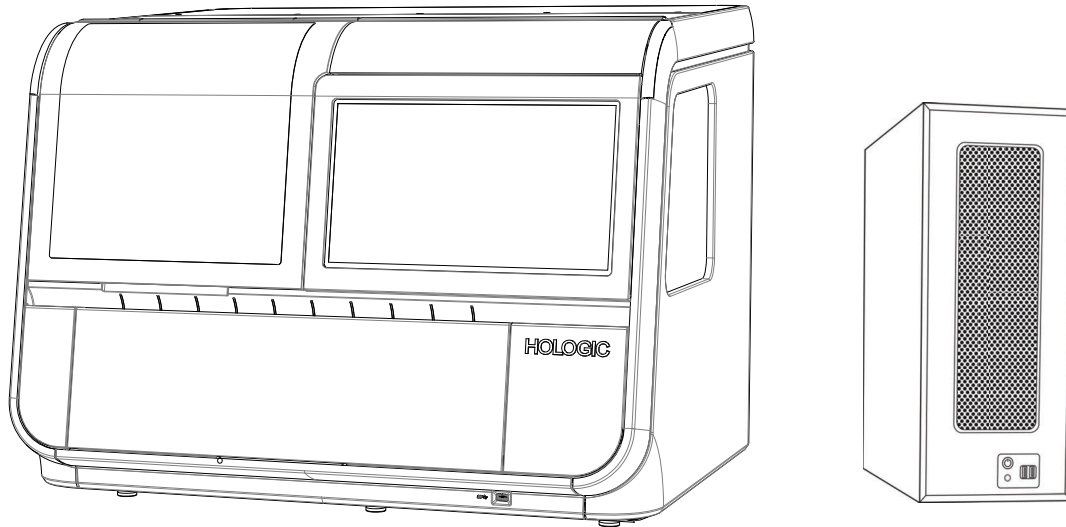

Figure 1-1 The Genius Digital Imager Processor and Digital Imager Computer
- **Digital Imager processor:** images the slides. (See Figure 1-1.)